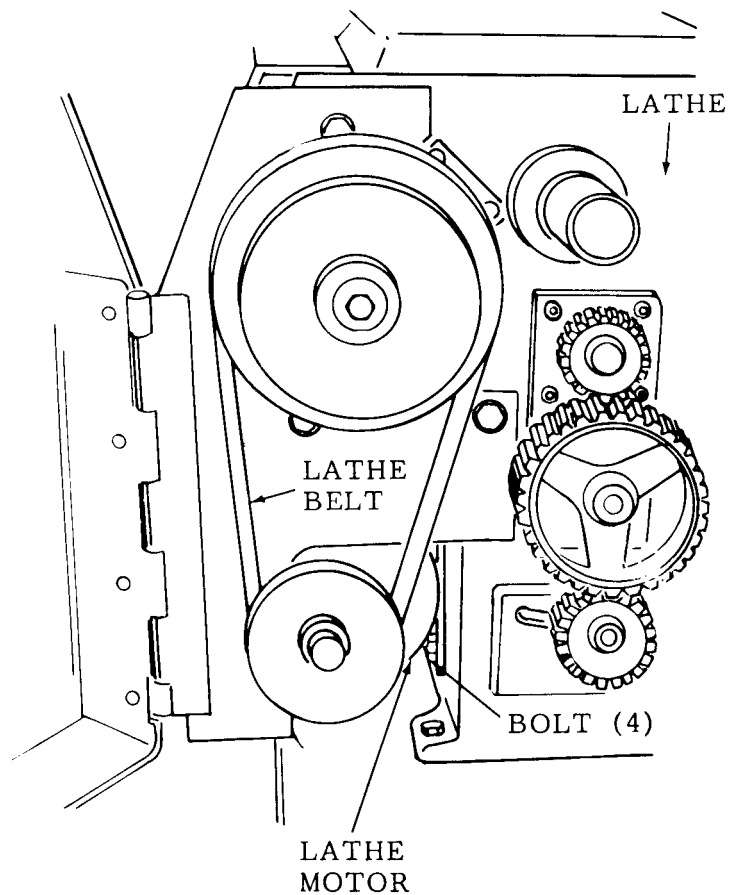

Figure 15-10. Lathe Belt, Removal and Installation.
- (1) Loosen the knob on the gear box and open door.
- (2) Loosen four bolts (fig. 15-10) and remove belt.
- b. Installation. Install the lathe belt as illustrated in figure 15-10.